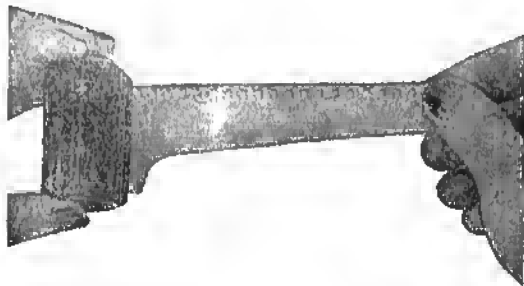

Fig. 9
2. Pull out the film leader from the cassette. This should not be longer than 10 cm. Shape it exactly as shown in fig. 9, or with the use of trimming template.
The cut part of the film leader (see fig. 9) should be 10 cm in length. About two mm of uncut film should protrude from the cassette's lips. The cut should be without sharp edges and should slope gently. No cut should be made between perforations.